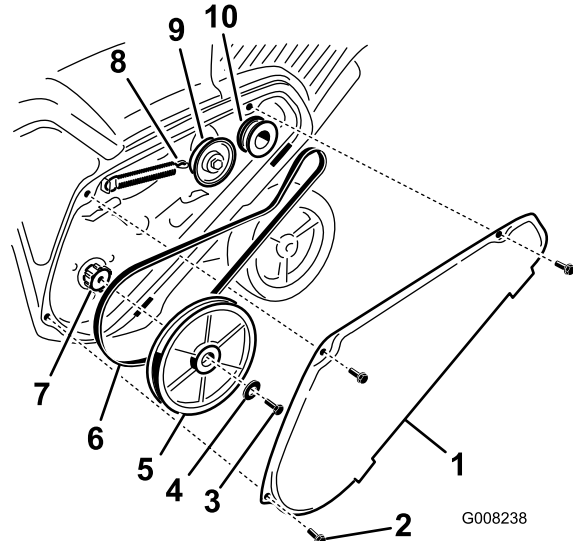

Figure 27
- 2. Unhook the brake spring from the idler arm to release the belt tension (Figure 27).
- 3. Remove the screw and curved washer that holds the rotor pulley (Figure 27).
- 4. Remove the rotor pulley and the drive belt (Figure 27).
Note: Route the new drive belt first around the engine pulley, then the idler pulley, and finally around the loose rotor pulley positioned just above the rotor shaft (Figure 27).
6. Install the rotor pulley onto the rotor shaft (Figure 27).
7. Install the curved washer and the rotor pulley bolt and tighten them securely (Figure 27).